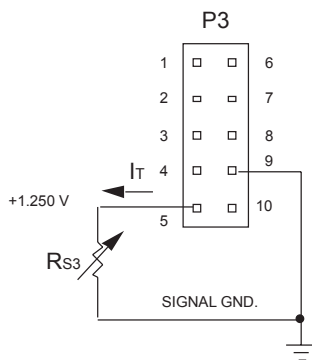
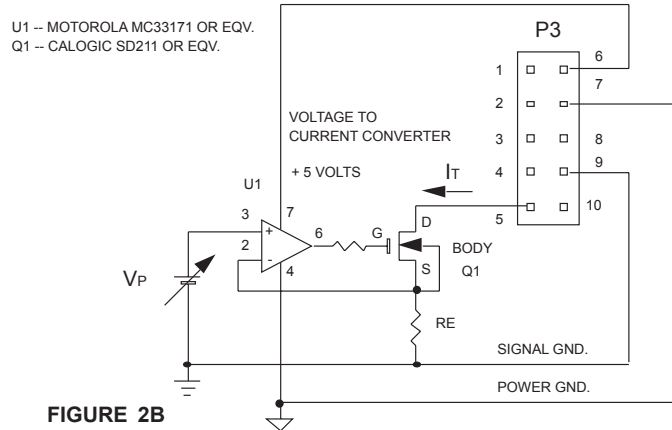

FIGURE 2A
FIGURE 2B
The temperature control resistor for the TC8 can be remotely located from the TC8. This is done by removing the jumper from connector JP2 and placing the desired temperature control resistor between Pin 5 and Pin 8 or Pin 9 of connector P3 (Figure 2A). These pins can be accessed through the ribbon cable that is enclosed with the TC8. The temperature of the detector can also be voltage programmed. All necessary interconnects, including power, are available on connector P3. This is illustrated in Figure 2B.
The input voltage (VP) to the circuit in Figure 2B should always be less than 0.6 volts otherwise improper operation may occur.